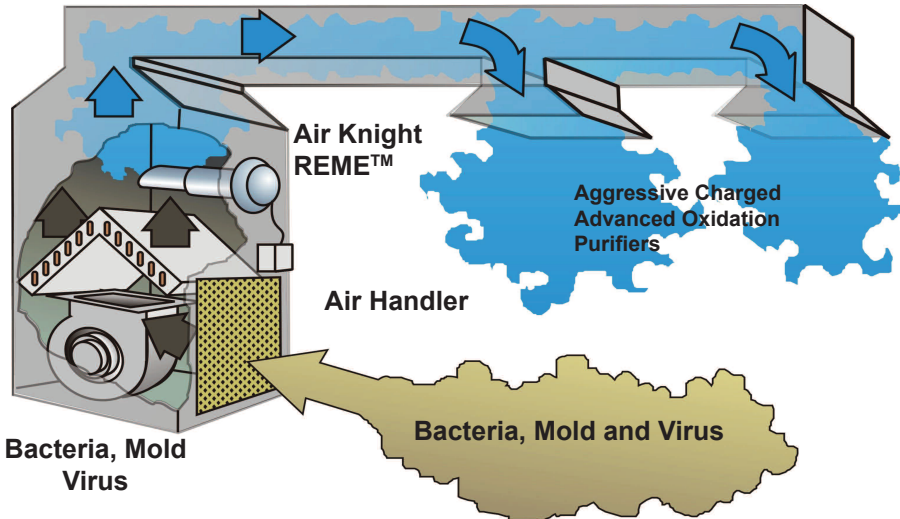

Figure 1
- To maximize the effectiveness of the Air Knight REME™, it is recommended (whenever possible) to install the Air Knight unit in the air plenum just after the air handling unit (supply side). Refer to Figure 1 for clarification.